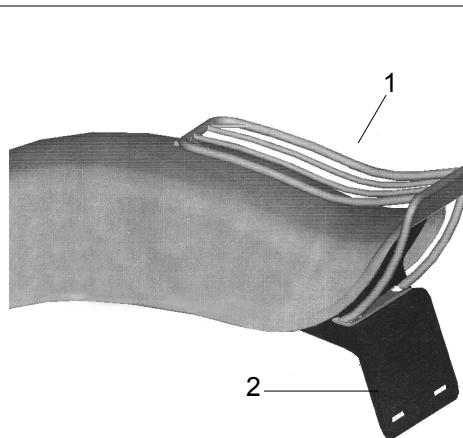
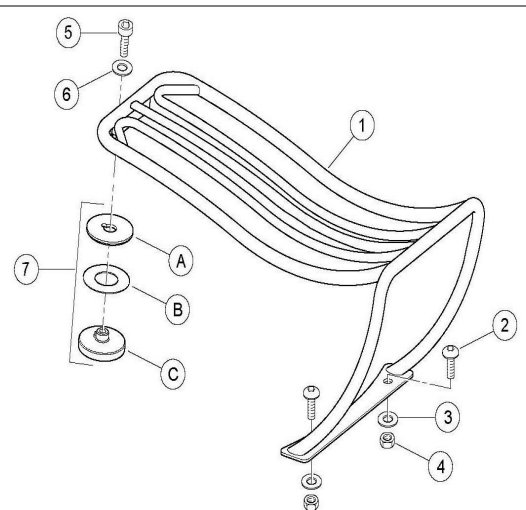

Figure 2
Figure 3
- a. See Figure 2. Hold the carrier portion vertical, and slide the rear mounting base onto the flat license plate bracket.
7. a. See Figure 3. Reach from the rear and insert the seat retainer (C) into the hole in the fender from the underside, lining up the tab with the notch in the hole.
b. Install the protective tape (B) on the outside of the rear fender surrounding the hole. Place the seat tab spacer (A) over the tape.
8. See Figure 2. Position the luggage rack (1) on the license plate bracket (2) as described in Step 3.
9. See Figure 3. Lower the front mounting tab of the rack over the hole in the center of the fender. Install the chrome flat washer (6) over the front rack mounting tab.
10. Insert the chrome socket head screw (5) through the chrome washer (6) and the rack front tab. Thread the screw into the retainer, but do not tighten.
11. See Figure 3. Insert two button head screws (2) through the rear rack mounting holes and the holes in the license plate bracket. Position the flat washers (3) and nuts (4) onto the screws from the underside, and tighten to 14 in. lbs.
12. Secure the rack by tightening the front socket head mounting screw (5) to 12 ft-lbs.